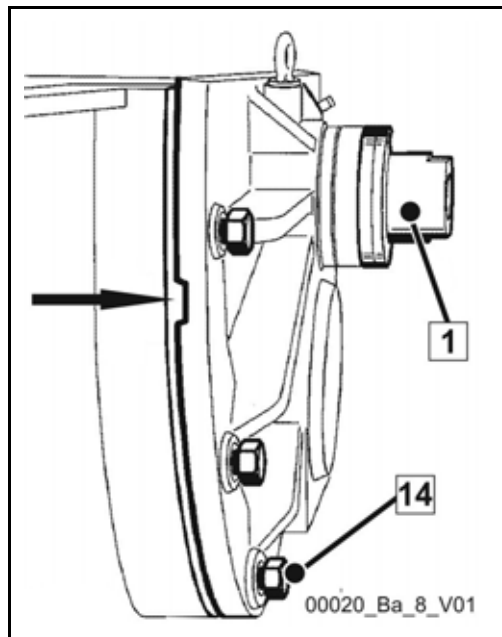

Fig. 344
- Loosen the adjusting nut (1) (**Fig. 344**) by two to three turns.
- Loosen the cover screws (14) evenly by approx. two to three turns to release the pressure spring in the cutting ring.
- Press off the cover of the housing using two assembly levers until it hits the loosened screws; there are press-off points (arrow) (**Fig. 344**) located on the top cover for this purpose.